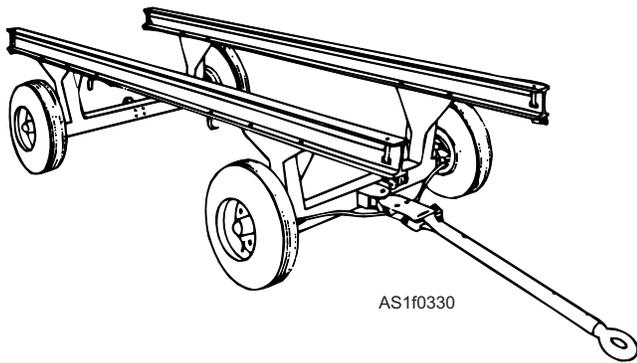

Figure 1-32.—Net-4 transportation trailer.
**NET-4 ENGINE TRANSPORT TRAILER.**—The Net-4 engine transportation trailer (fig. 1-32) is a four-wheel trailer designed for transporting large jet engines and airframe sections. The towbar is extendable for transporting unusually long loads.